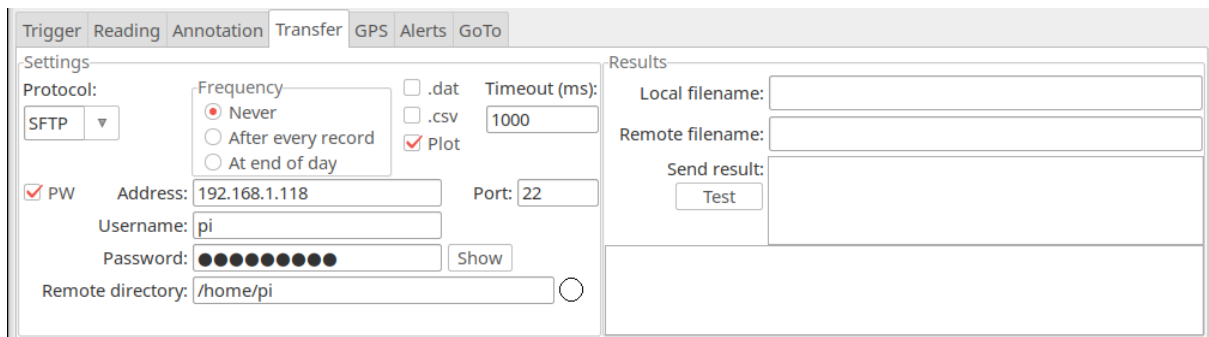

Figure 7.36: Log Continuously Transfer tab
**Transfer** The .dat file can be sent via FTP, SCP, or SFTP to a server by making settings on the left side of the Transfer tab (shown in Fig. 7.36)